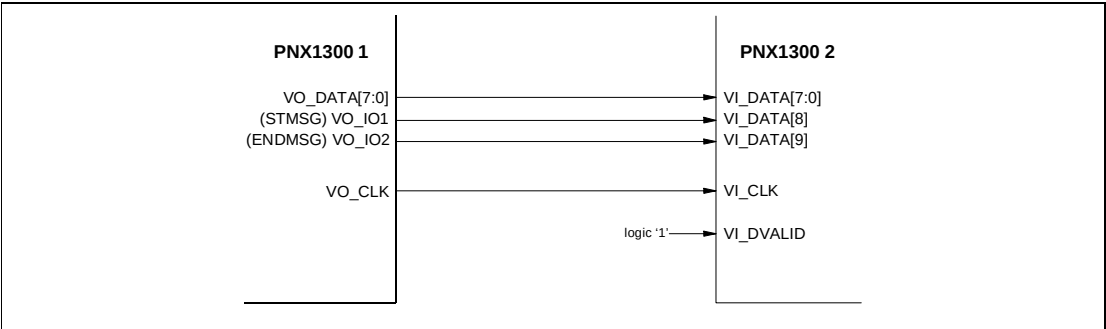
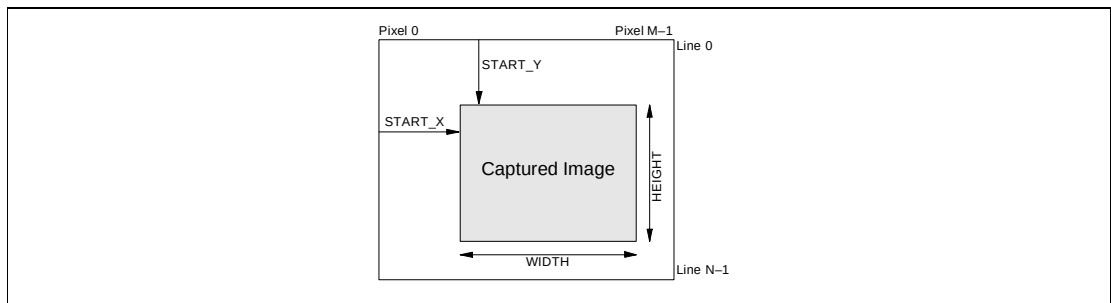
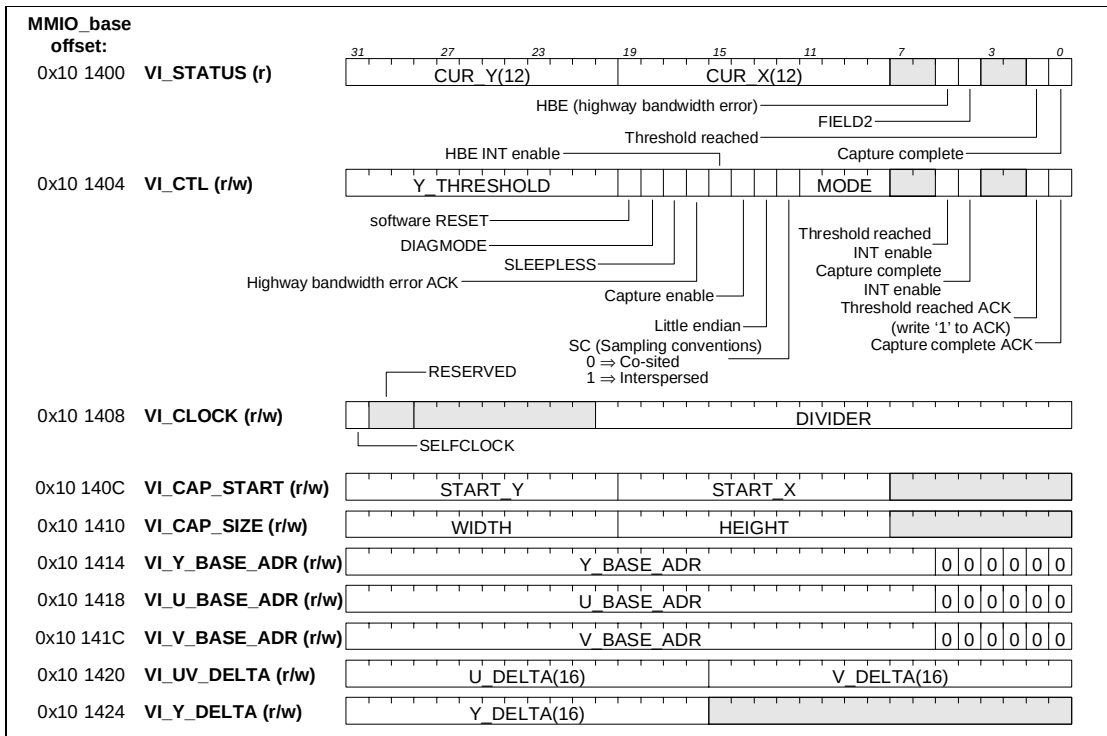

Figure 6-2. VI unit connected to an EVO unit of another PNX1300.
Figure 6-9. VI capture parameters.
Figure 6-11. YUV capture view of VI MMIO registers.
Diagnostic mode is entered by writing a control word with a '1' in the DIAGMODE bit position to the VI\_CTL register (see Figure 6-11). The EVO unit has to be setup to provide a clock before starting DIAGMODE. After a VI software reset, the DIAGMODE bit has to be set back to '1'. In diagnostic mode, the VI signals are exactly as shown in Figure 6-2, except that the inputs come from the on-chip EVO unit. Note that the inputs are truly taken from the PNX1300 EVO external pins, i.e. if an external (board level) source is driving EVO pins, diagnostic mode is not capable of testing the EVO unit.
The VI block can operate in two distinct clocking modes, as controlled by the VI\_CLOCK control register (see Figure 6-11).
Refer to **Figure 6-11** for an overview of the memory mapped I/O (MMIO) registers that are used to control and observe the operation of VI in fullres capture mode. To ensure compatibility with future devices, any undefined MMIO bits should be ignored when read and written as 0's.
At any point in time, the VI\_STATUS register fields (see **Figure 6-11**) indicate the current camera status:
**Figure 6-9** shows the details of an incoming field and the captured image. The incoming field consists of N hori-
zontal lines, each line having M pixels labeled 0 through M-1. Lines are numbered from 0 through N-1. The captured image is a subset of the incoming image. It is defined by the capture parameters (START\_X, START\_Y, WIDTH, HEIGHT) held in the VI\_CAP\_START and VI\_CAP\_SIZE MMIO registers (see **Figure 6-11**).
Referring to Figure 6-9 and Figure 6-11, if VI is programmed to capture HEIGHT lines of WIDTH pixels in